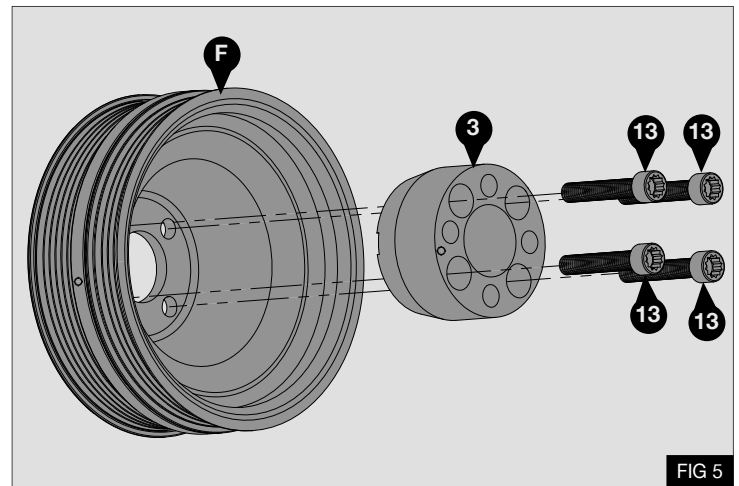

FIG 5
- Align the crank pulley (F) with the auxiliary pulley spacer (3). Secure using 4 x M8 x 45 spline screws (13). Torque screws (13) diagonally to 23 Nm + 90° using a calibrated torque wrench - Fig 5